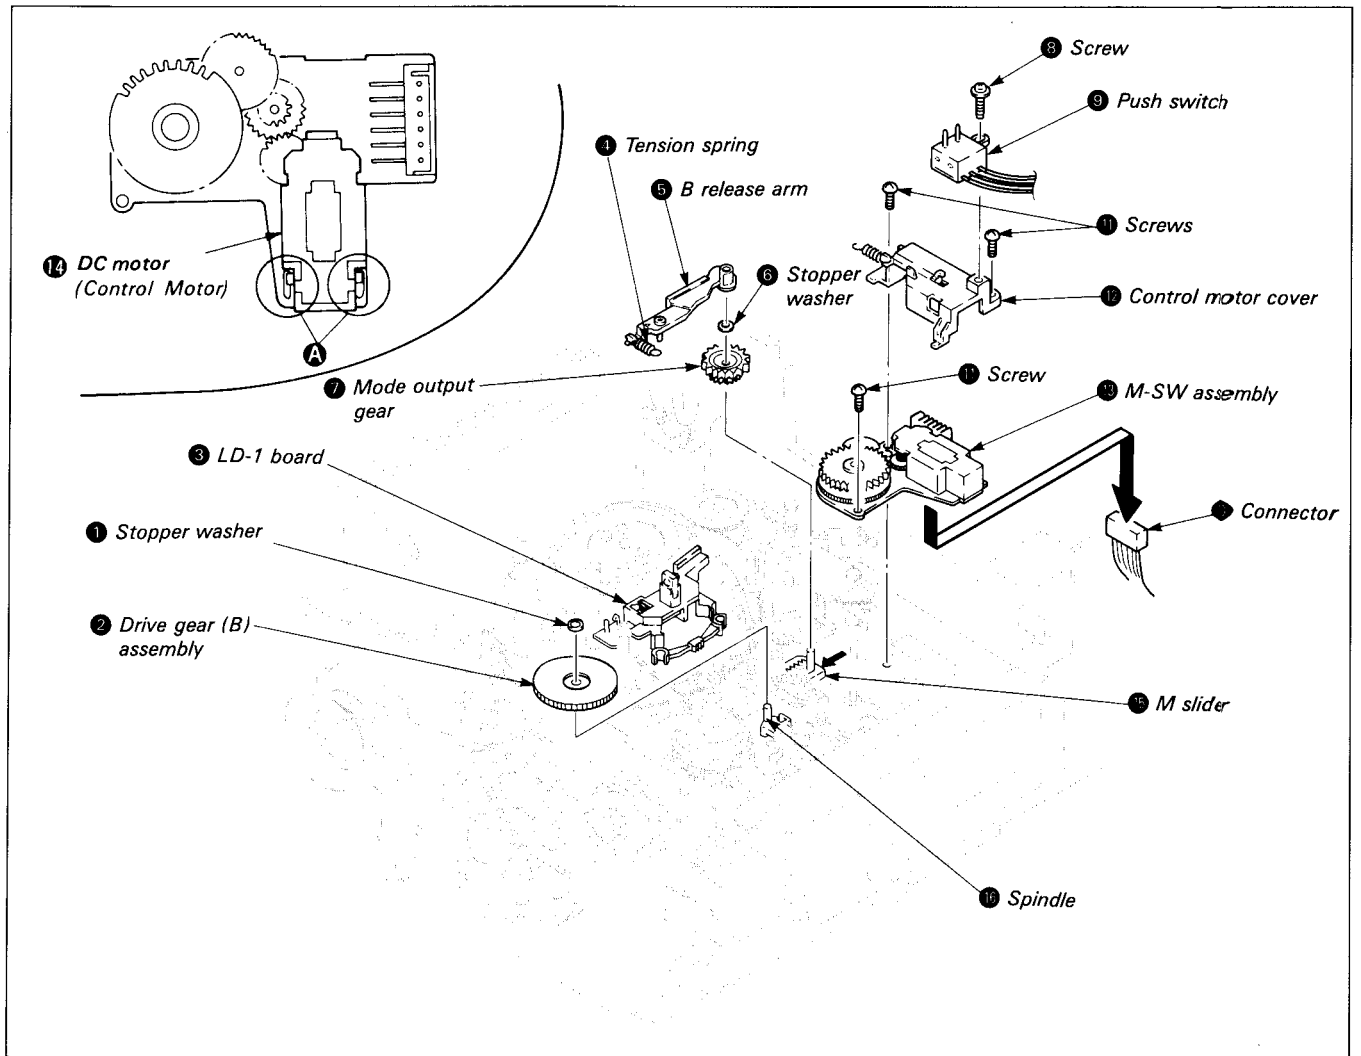

Fig. 7-38.
- 1) Solder the DC motor (Control Motor) ⑩.
- 2) Mount the M-SW assembly ⑬ and the control motor cover ⑫, and tighten the three screws ⑪.
- 3) Connect connector ⑬.
- 4) Mount push switch ⑨ and tighten screw ⑧.
- 6) Check that M slider ⑮ is moved fully in the direction of arrow **B**.
- 7) Place a half drop of oil on spindle ⑯. (See Fig. 7-38.)